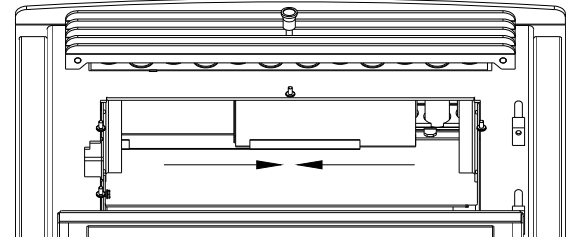

Figure 20
- b. Open the door and remove the baffle from the firebox. Slide each side of the baffle toward the center to remove (Figure 20). Close the door.
- Baffle:** Remove the baffle and scrape off ashes. Slide both sides toward the center to remove the baffle(Figure 20) Use a vacuum is necessary. In some cases, you will need to remove creosote on the baffle, which can accumulate rapidly under certain conditions. A small wire brush can be used. It is important to remove this creosote because it is highly combustible and could cause premature corrosion.